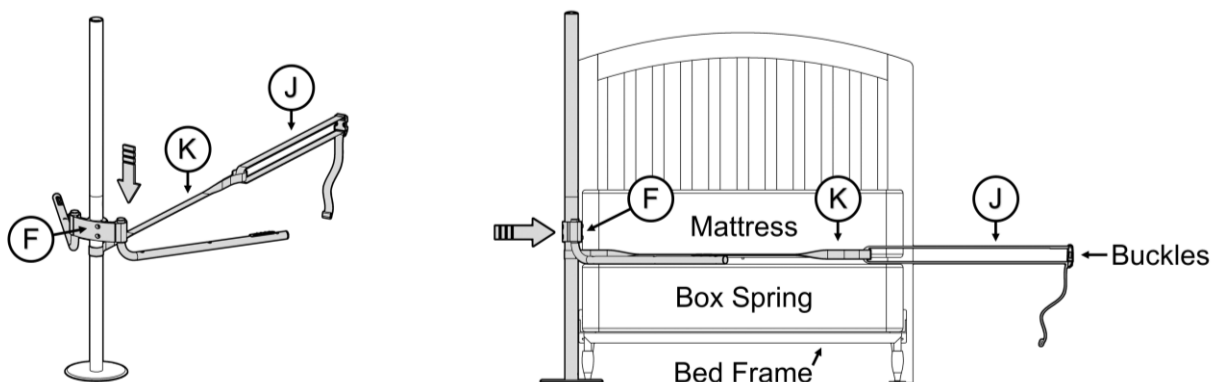

FIGURE 5
5. First, put free loop of **K** over top of pole and slide down. Place **F** with legs attached over top of pole as shown and slide down. Twist the assembly if needed to help it slide down. **K** should be under **F**. Place legs directly on box spring or bed frame. Push entire assembly so that there is no gap between **F** and mattress. Pull buckles on **J** to opposite side of bed. **FIGURE 5**